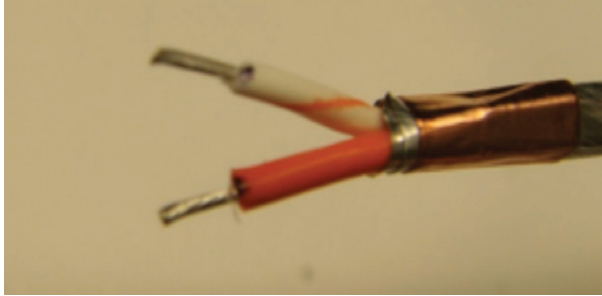

Figure 54: Stripping primary
15. Using 26-gauge hand strippers, strip each primary (Figure 54). If necessary re-tin the primary ends.